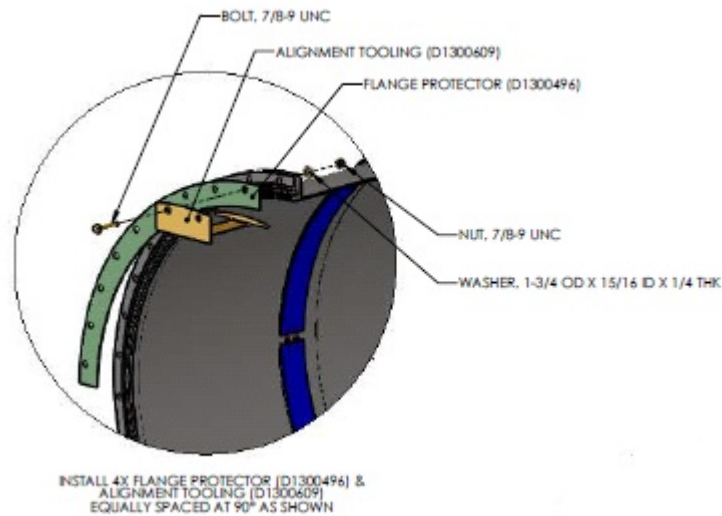

Figure 30: Support Ring installation
3. Pre-assemble the Top and Bottom Support Rings D1002084 and place the support ring assembly inside the manifold tube at a distance 12.81 inches beyond the outer surface of the flange, as shown in Figure 30: Support Ring installation.